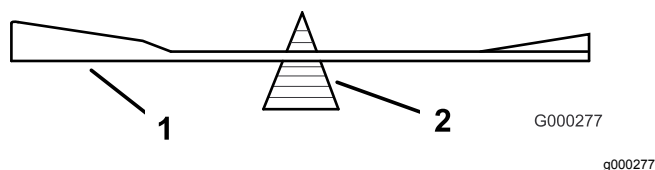

Figure 76
- Check the balance of the blade by putting it on a blade balancer (Figure 76).